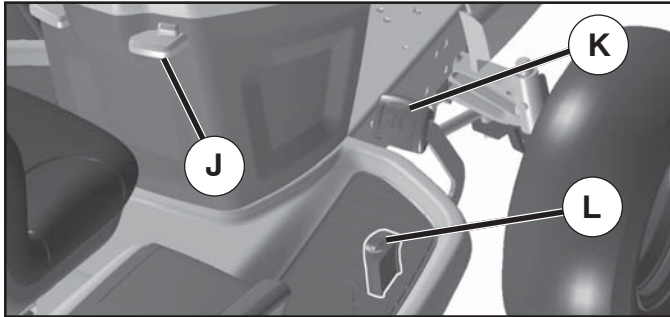

Fig. 19
TO MOVE FORWARD AND BACKWARD (See Fig. 19)
- Slowly depress forward (K) or reverse (L) drive pedal to begin movement. Ground speed increases the further down the pedal is depressed.
TO USE CRUISE CONTROL (J) (See Fig. 19)